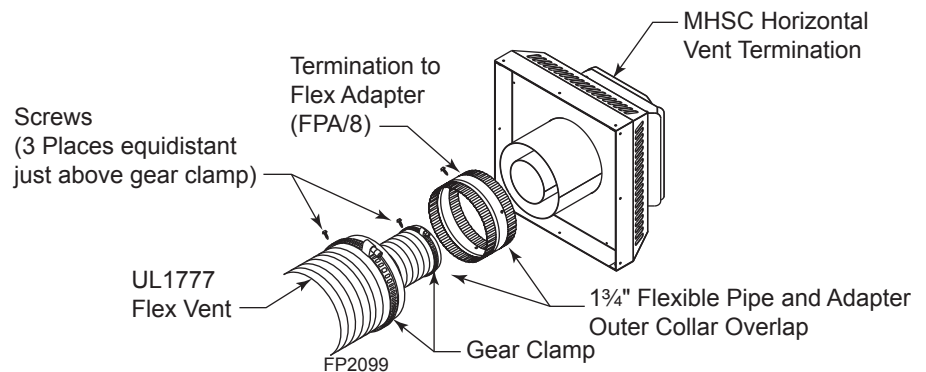

Figure 38 - Typical Horizontal Flex Vent Installation
1. Connect the 4" flexible vent to the horizontal termination. *Figure 38*
3. Connect the 7" flexible vent to the termination adapter ring. *Figure 38*
4. Review *Figure 38* for proper overlap and clamp placement.
6. Use only listed and approved terminations and accessories, installed per the termination instructions and *Figure 38*.